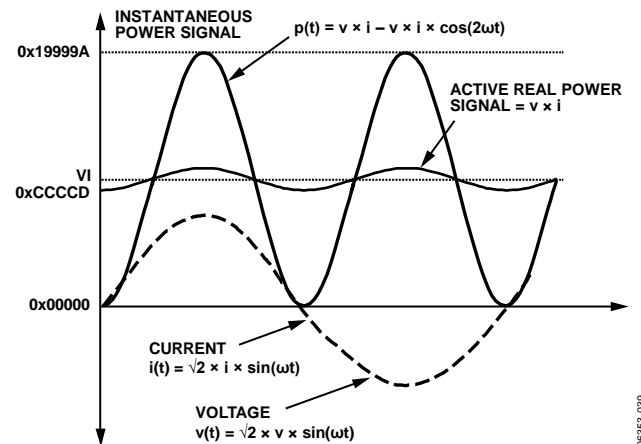

Figure 64. Active Power Calculation
Note that the active power is equal to the dc component of the instantaneous power signal $p(t)$ in Equation 11, that is, VI . This is the relationship used to calculate active power in the ADE7116/ADE7166/ADE7169/ADE7566/ADE7569. The instantaneous power signal $p(t)$ is generated by multiplying the current and voltage signals. The dc component of the instantaneous power signal is then extracted by LPF2 (low-pass filter) to obtain the active power information. This process is illustrated in Figure 64.
The ADE7116/ADE7166/ADE7169/ADE7566/ADE7569 also incorporate an active power offset register (WATTOS[15:0], Address 0x20). It is a signed, two's complement, 16-bit register that can be used to remove offsets in the active power calculation (see Figure 64). An offset can exist in the power calculation due to crosstalk between channels on the PCB or in the IC itself. The offset calibration allows the contents of the active power register to be maintained at 0 when no power is being consumed.
As mentioned in the Active Energy Calculation section, the discrete time sample period (T) for the accumulation register is 1.22 μ s (5/MCLK). With full-scale sinusoidal signals on the analog inputs and the WGAIN register (Address 0x1D) set to 0x000, the average word value from each LPF2 is 0xCCCCD (see Figure 64). The maximum positive value that can be stored in the internal 49-bit register is 2^{48} (or 0xFFFF,FFFF,FFFF) before it overflows. The integration time under these conditions when WDIV = 0 is calculated in the following equation: